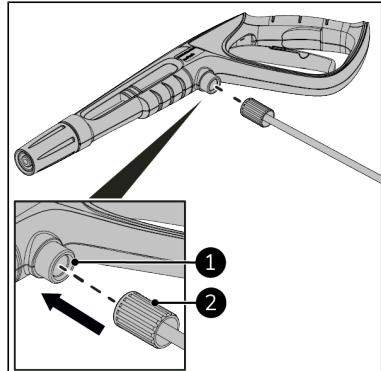

Figure 31.
2. Screw the high-pressure hose (Figure 31, pos. 2) onto the jet gun (Figure 31, pos. 1).